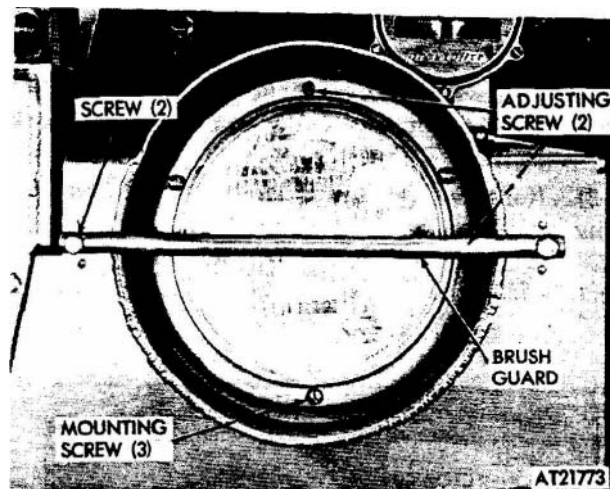
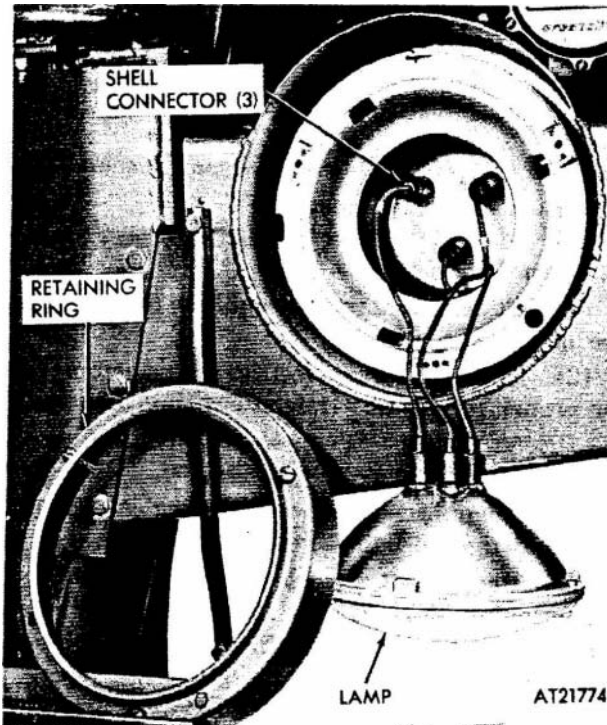

Figure 2-121. Headlight and brush guard, removal and replacement.
Figure 2-122. Headlight lamp replacement.
- (1) Remove one screw securing brush guard to fender. Loosen opposite screw, and move brush guard aside (fig 2-121).
- (3) Adjust headlamps (c. below).
- (4) Align brush guard with fender, install screw, and **tighten** both screws (fig 2-121).
- (1) Position vehicle on a level surface.
- (2) Position adjustment screen (FSN 4910-240-7529) or equivalent 25 feet in front of vehicle.
- (3) Adjust the headlights in accordance with the instructions accompanying the adjustment screen. Lamp adjustment is accomplished by turning the two adjusting screws located under the headlight retaining ring (fig 2-121).
(1) Remove one screw securing brush guard to fender. Loosen opposite screw and move brush guard aside (fig 2-121).
(2) Remove retaining ring from lamp housing by removing three screws.
(3) Pull lamp out and remove three electrical connectors from lamp (fig 2-122).
(1) Connect three electrical connectors to their respective connectors on lamp.
(2) Align retaining ring with lamp housing and secure with three screws.
(3) Adjust headlamps (refer to para 2-104c).
(4) Align brush guard with fender, install screw, and tighten both screws (fig 2-121).